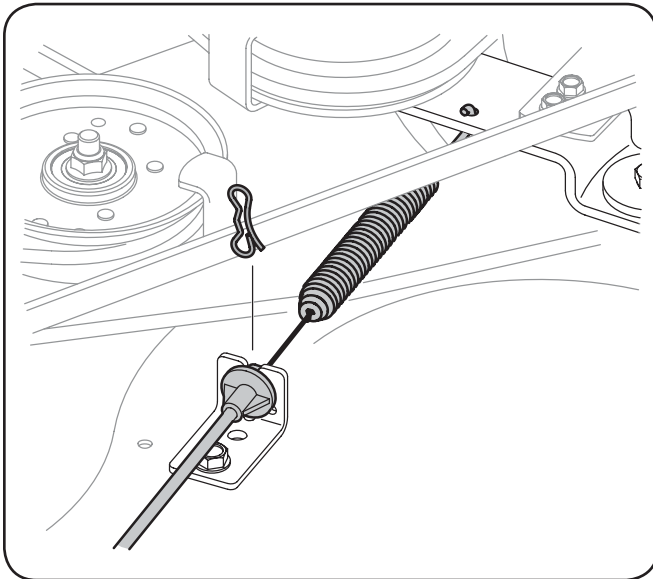

Figure 7-4 - Models with manual PTO only.
- For models with manual PTO, carefully remove the deck engage cable from the rear of the cutting deck by removing the bow-tie cotter clip that secures it. Remove the spring from the deck idler bracket. See Fig. 7-4.
- c. Reattach the deck engage cable. See Fig. 7-4.